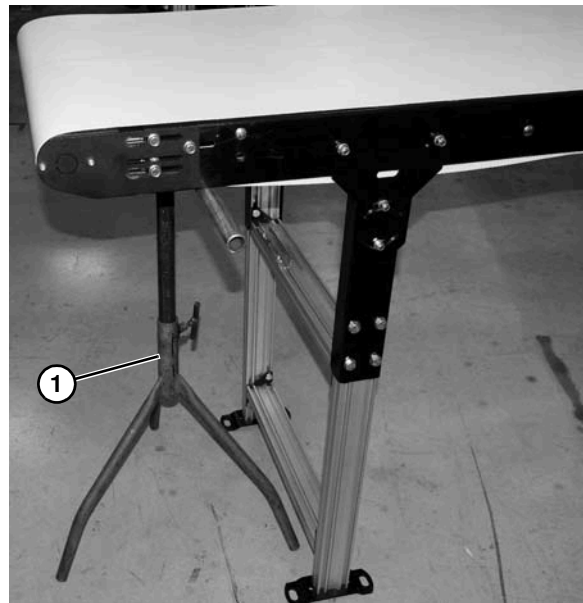

Figure 87
1. Ensure a temporary support stand (**Figure 87, item 1**) is placed at both ends of the conveyor.